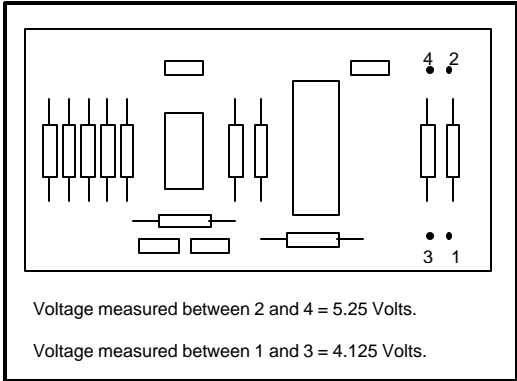

FIGURE 4.32 ANTI-TWO BLOCK BOARD
2. With a Digital Multimeter (DMM) set for DC Volts, check the voltage at the connections to the potentiometer located on the Anti Two-Block Board (see Figure 4.32). A red wire is attached to Connection 1; a black wire is attached to Connection 3.